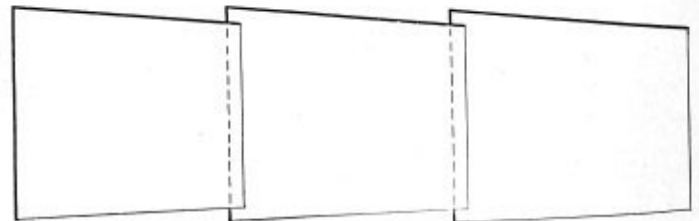

Fig. 1.—Smokestack Sections
A.—It is assumed that you wish to join five similar circular sections by means of telescopic joints, as in Fig. 1. In this case the outside diameter at the small end of the section must be equal to the inside diameter of the large end. It is also necessary to add or subtract a certain allowance to cover imperfections in workmanship or variations in the thickness of the plates, etc., and it is